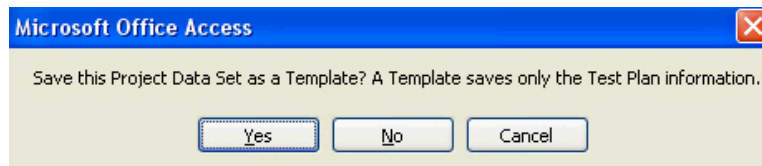

Figure 6 - Save Project Data Set as Template
- Click **“Save Project Data Set As”** from the ERT main menu. The window shown in Figure 6 will appear.